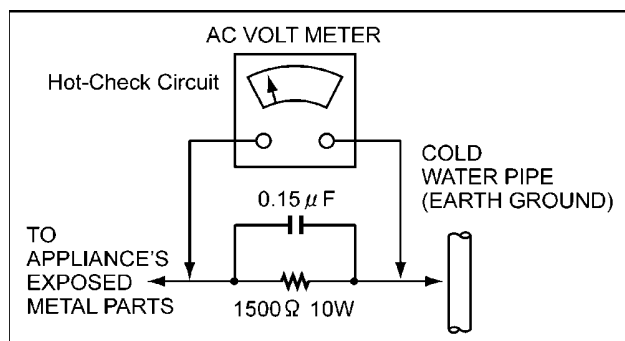

Figure1
## LEAKAGE CURRENT HOT CHECK (See Figure 1)
2. Connect a 1.5k $\Omega$ , 10W resistor, in parallel with a 0.15 $\mu$ F capacitor, between each exposed metallic part on the set and a good earth ground such as a water pipe, as shown in Figure1.